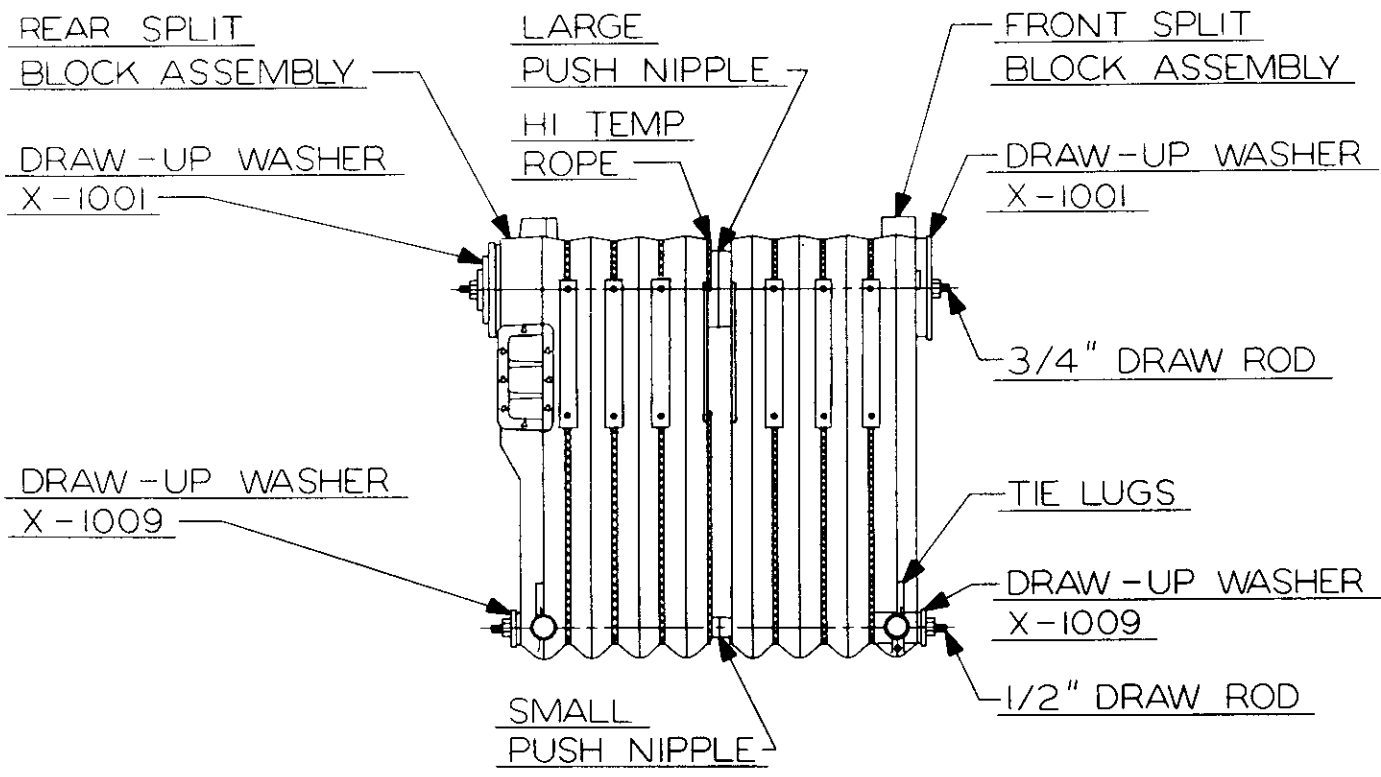

FIGURE 1
- 3— Place each block of sections on the foundation with nipple ports facing each other. Refer to Figure 1.
- 9— Insert draw rods through the nipple ports. Make certain that the 3/4" draw rod is used on the large nipple. Pay particular attention to the placement of the draw washers. See Figure 1.